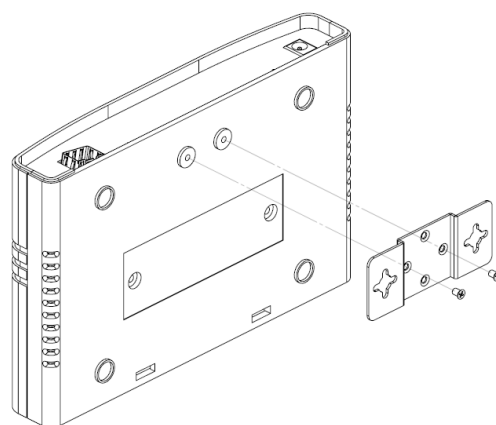

Figure 22. Attach the wall-mounting bracket to the device
Step 1. Attach the bracket correctly and securely to the device using two wall-mounting screws as shown in Figure 22.